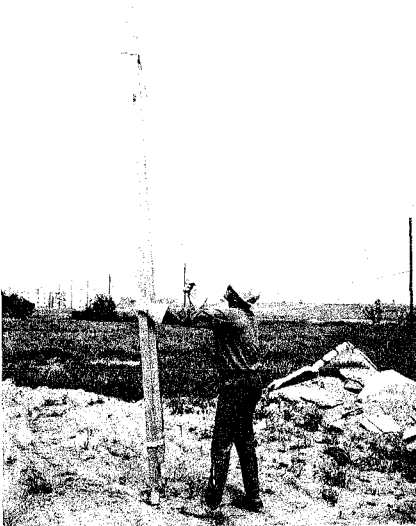

Fig. 31 — Extending Top Section
- (b) Block the ladder at the base with one foot, then grasp the side rails and pull the top of the ladder back and away from the support until it is in an upright balanced position as shown in Fig. 31.